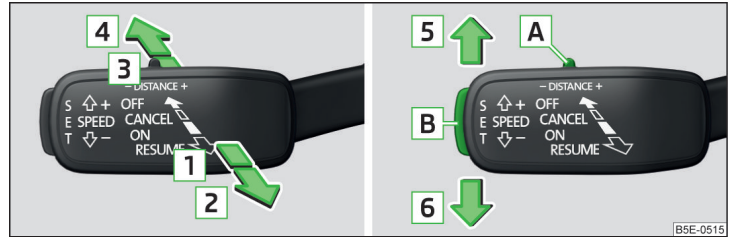

Fig. 234 Operating lever
Overview of ACC functions operated with the lever » Fig. 234
- Press the button **SET** » Fig. 234 on page 186 .
- **or:** Set the lever to the sprung position **RESUME** » Fig. 234 on page 186 .
- Set the lever into the sprung position **CANCEL** » Fig. 234 on page 186 .
The desired speed can be set or changed using the control lever » Fig. 234 on page 186.
› Set the switch **DISTANCE** to the sprung position – or + » Fig. 234 on page 186.
Acceleration can be cancelled at any time by touch on the brake pedal or pressing the button **CANCEL** on the lever » Fig. 234 on page 186.